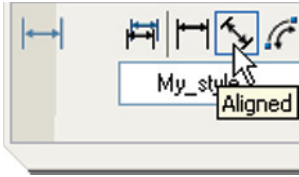

Fig. 6.4 The **Aligned** tool icon in the **Dimensions** control panel
2. *Left-click* the **Aligned** tool icon (Fig. 6.4) and dimension the outline. The prompts and replies are similar to the first example.